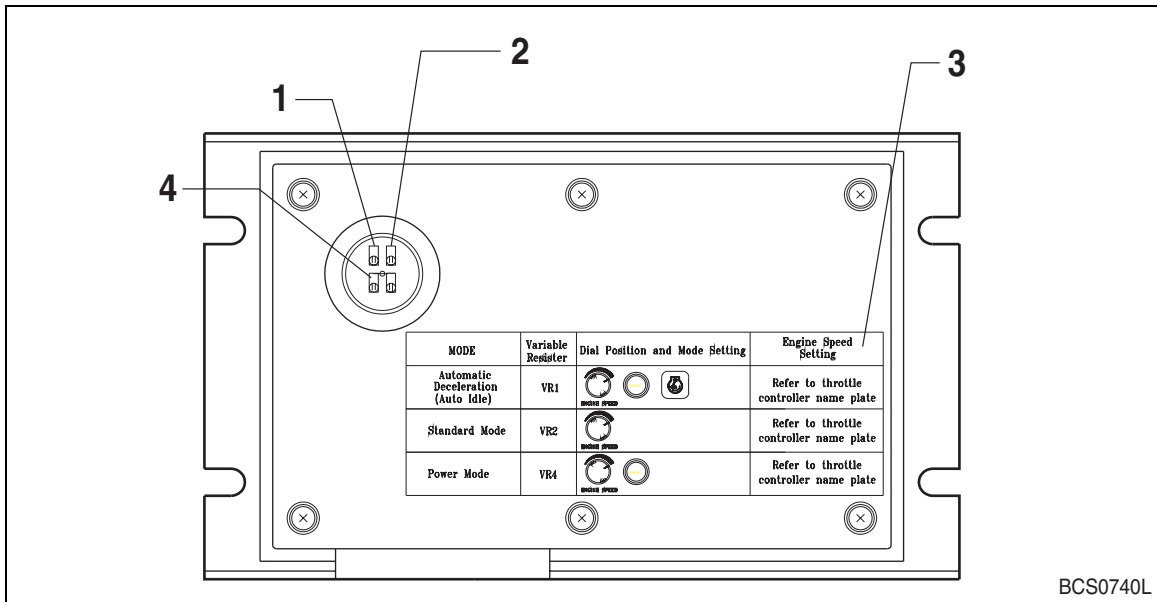
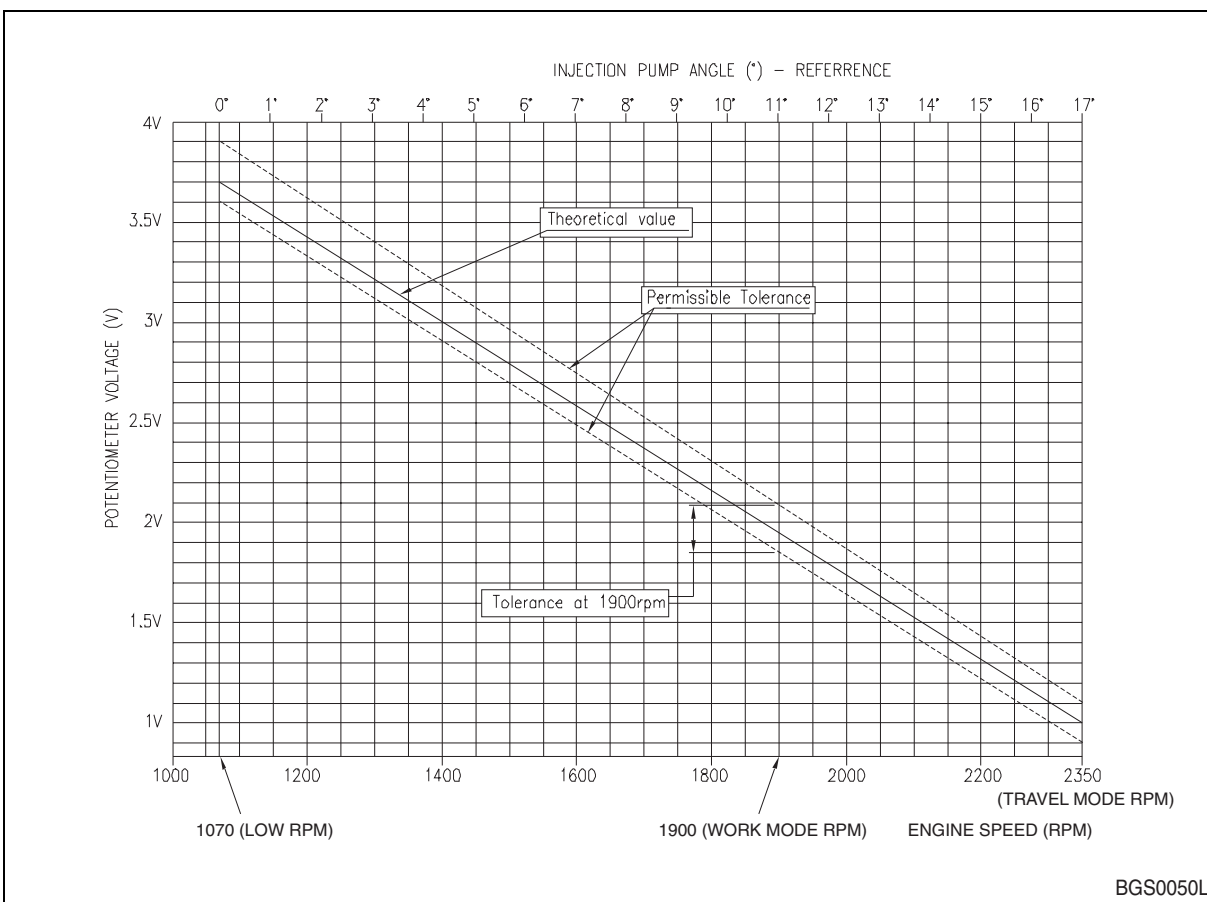

Figure 72
Figure 74
Adjustment of Work Mode RPM (Refer to Figure 72)
- D. With a small screw driver adjust the variable resistor "VR4" shown in Figure 72. Adjust it until the engine is at "A (Table 1)" rpm.
Adjustment of Auto Idle and Other RPM (Refer to Figure 72)
- C. With a small screw driver adjust the variable resistor "VR1" shown in Figure 72. Adjust it until the engine is at "B" rpm.
- C. With a small screw driver adjust the variable resistor "VR2" shown in Figure 72. Adjust it until the engine is at "C" rpm.
NOTE: Refer to Figure 72 thru Figure 74.
- Read the engine speed displayed on the gauge panel and find the corresponding TPS voltage on table "Figure 74."